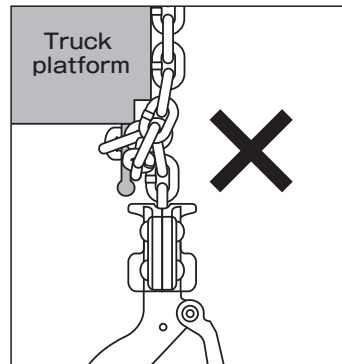

Figure 19
- (42) Do not suspend the load chain directly from rope hook fixtures on trucks. Do not use the load chain as a suspension device. (Figure 19)